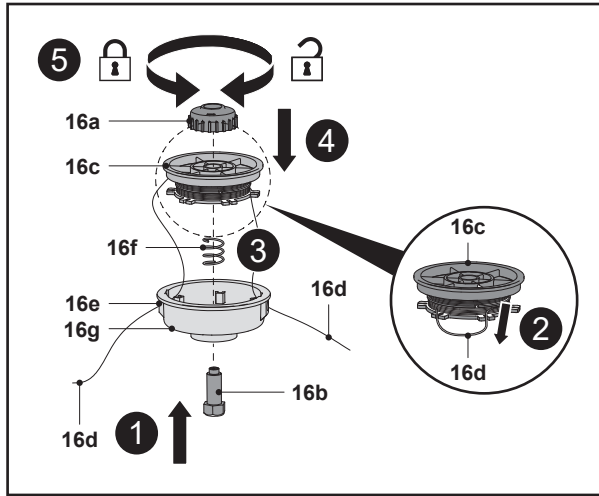

Fig. 28
8. Insert the locking bolt (16b) from below to pass the hole of housing (16g) and the spring (16f) and hold them in position (Fig. 28, step 1).
10. Release the trimming line (16d) from the notches and hold it in position. Avoid the trimming line (16d) scattered from the trimming spool (16c) (Fig. 28, Step 2).
11. Lead the trimming line ending through the eyelet (16e) on the housing (16g) (Fig. 28, Step 3).
13. Insert the trimming spool (16c) into the housing (16g) (Fig. 28, Step 4).
15. Press down the trimming spool (16c) against the spring (16f) and secure the bumper (16a) onto the trimmer head (16) by hand (Fig. 28, step 5).